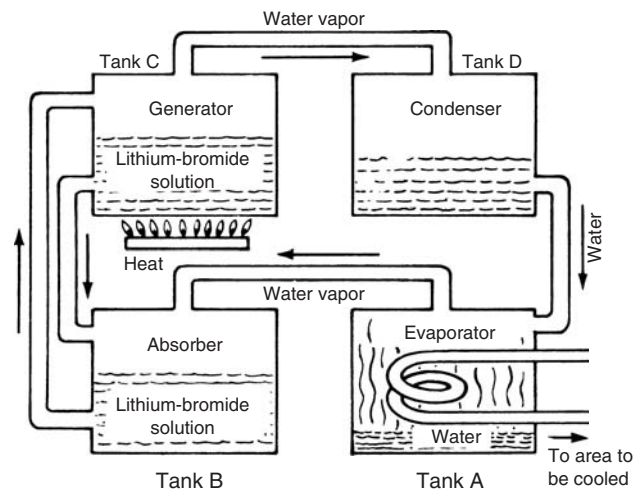

Fig. 17-1 Lithium-bromide system of refrigeration.
A solution of lithium bromide and water can absorb still more water. Note that, in Fig. 17-1, a tank of
Since the absorber (B), shown in Fig. 17-1, continually receives water, it would soon overflow if the excess water that comes to it as water vapor was not removed. To avoid overflow, the solution that has absorbed water is pumped to a generator (C).